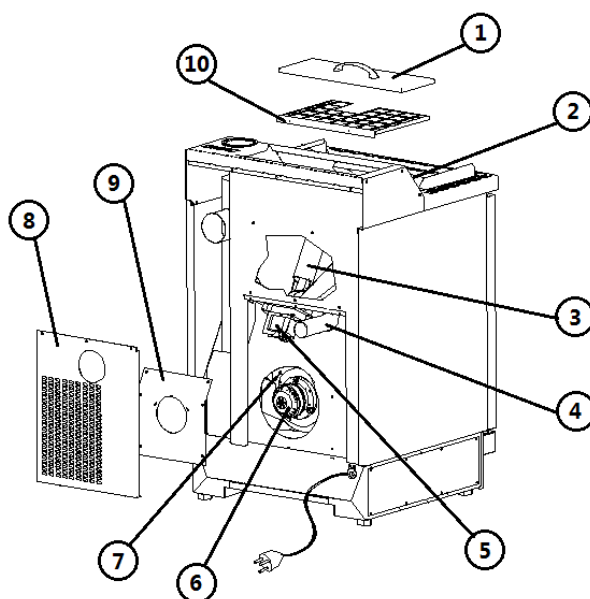

Fig. 38 - Rear view
LEGEND Fig. 38 page 33
- Loosen the 3 screws on the inspection panel + the 6 screws on the extractor cover (see **Fig. 38 page 33**).